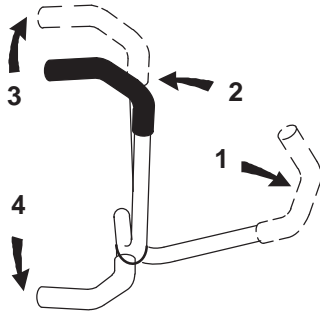

Figure 19
3. To go forward, slowly push the motion control levers forward (Fig. 19).
To go straight, apply equal pressure to both motion control levers (Fig. 19).
To turn, move the motion control lever toward neutral in the direction you want to turn (Fig. 19).
2. To go backward, slowly pull the motion control levers rearward (Fig. 19).
To turn, release pressure on the motion control lever toward the direction you want to turn (Fig. 19).